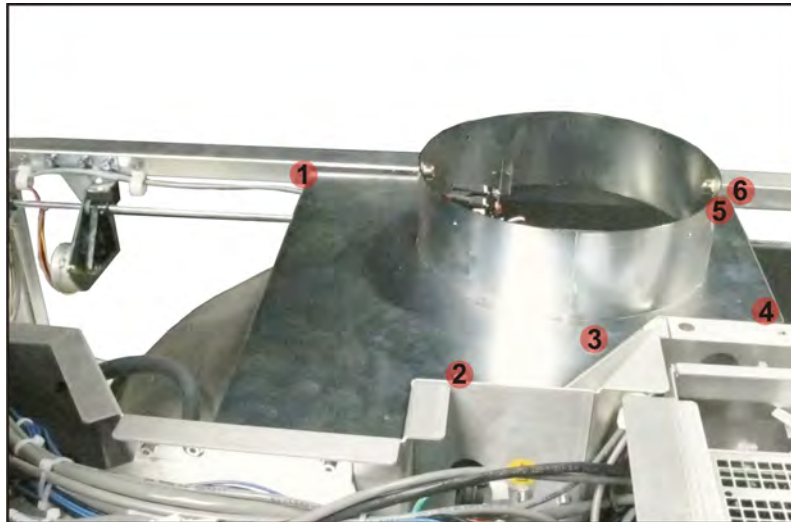

Figure 5-64 Remove Screws Securing Duct
7. Use a 3mm hex key to remove the six other screws on the duct. (**Figure 5-64**)